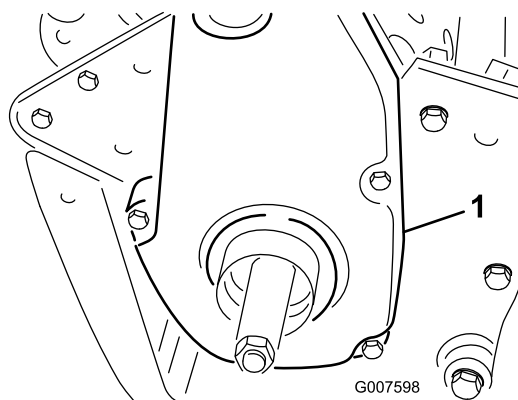

Figure 37
6. Remove the rear belt cover from the right side of the machine (Figure 37).